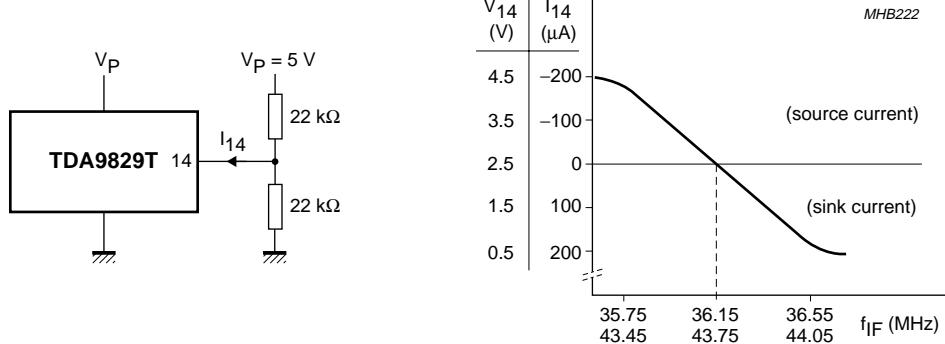

Fig.4 Measurement conditions and typical AFC characteristic.
AFC circuit (pin 14); see notes 7 and 8 and Fig.4
7. To match the AFC output signal to different tuning systems a current source output is provided. The test circuit is given in Fig.4. The AFC steepness can be changed by the resistors at pin 14.